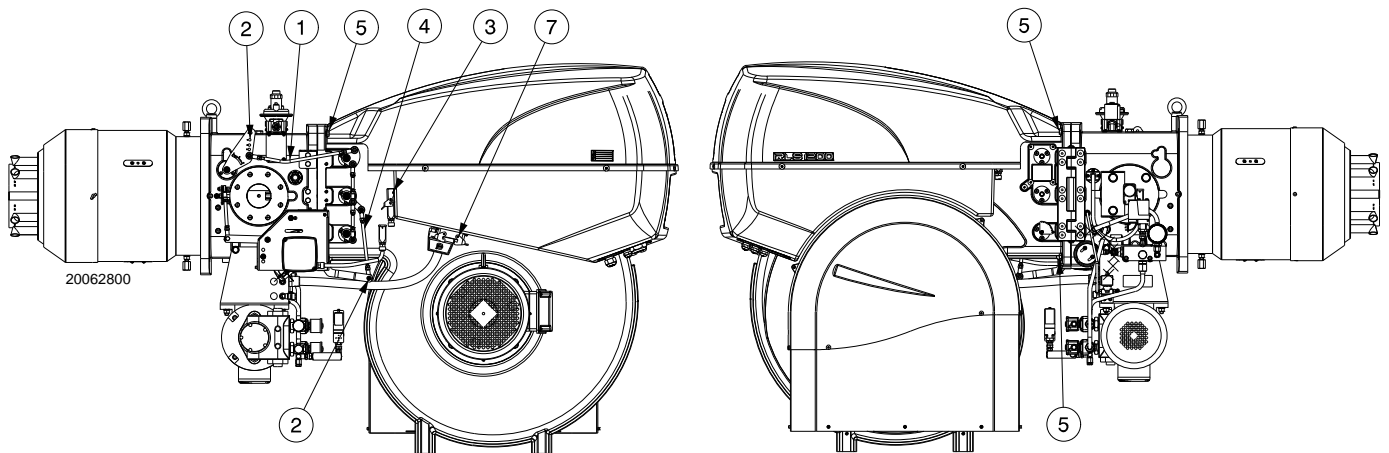

Fig. 44
- Remove the tie-rods 1) and 4)(Fig. 44) of the head movement and damper opening lever, loosening nut 2);